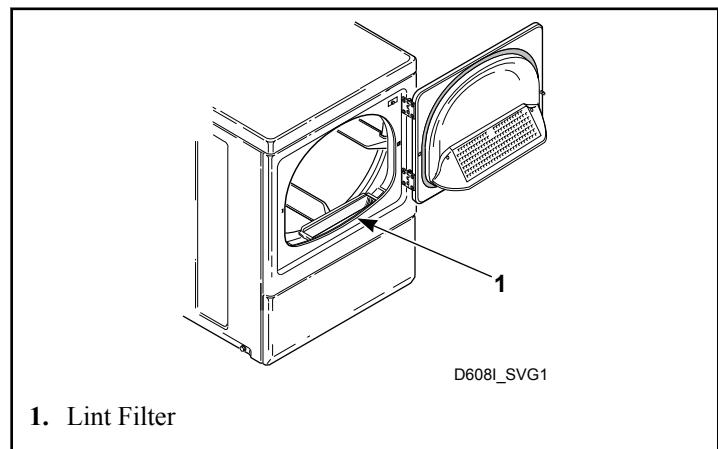

Figure 55
**CLEAN THE LINT FILTER BEFORE DRYING EACH LOAD.** (Refer to *Figure 55* for lint filter location.) Cleaning the lint filter is important because a layer or pad of lint on the filter will block the flow of air through the dryer, thus reducing the efficiency of the dryer. The clothes will take longer to dry and energy will be wasted.